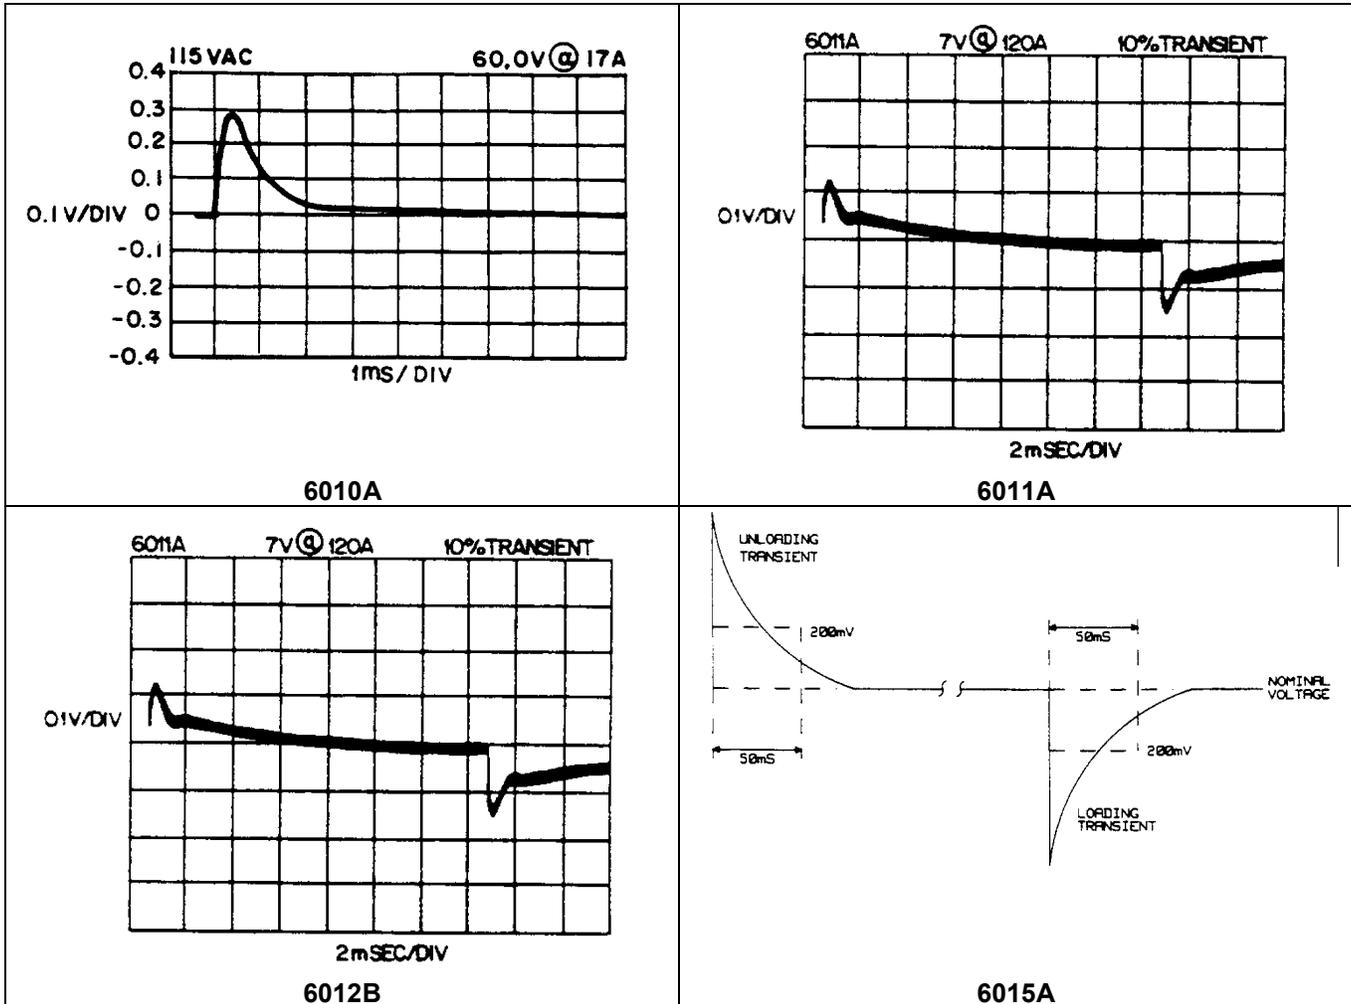

Figure 2-7. Load Transient Recovery Waveform
- Adjust the oscilloscope to display transients as in Figure 2-7.